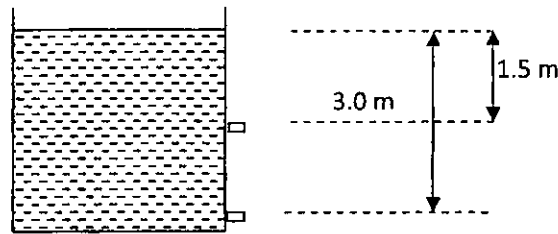

Figure Q6
- (b) The rectangular tank shown in Figure Q6 has two identical orifices one vertically below the other on the same side of the tank. The lower orifice is 3 m below, whereas the other is 1.5 m below the water surface. The water level of the tank is maintained at a constant height. Determine the point at which the two water jets will intersect each other if the coefficient of velocity ( $C_v$ ) is 0.02 for both orifices.